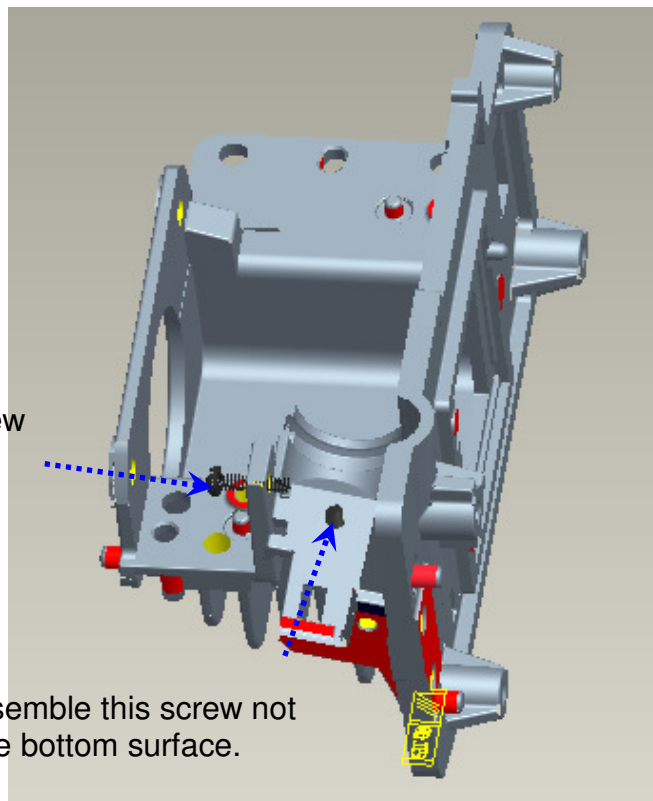

Fig. 1-2
** Adjustment criteria refer to below item (Fig. 1-2).
- i. Pre-assembly 2 adjusting screws. Criteria shown as (Fig.1-2)